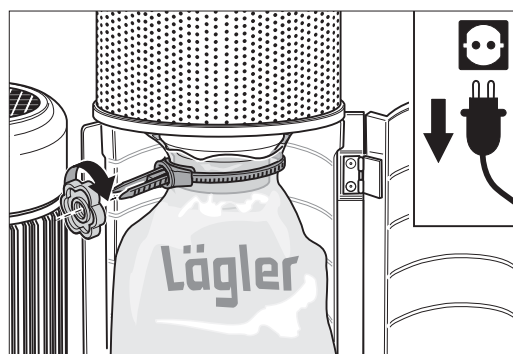

Fig. 17 Tighten the MultiClip threaded strip and screw the nut carefully.
- 10 Circle the threaded strip of the MultiClip around the neck of the dust separator, insert through lash-on piece, then fasten by turning nut (fig. 17).